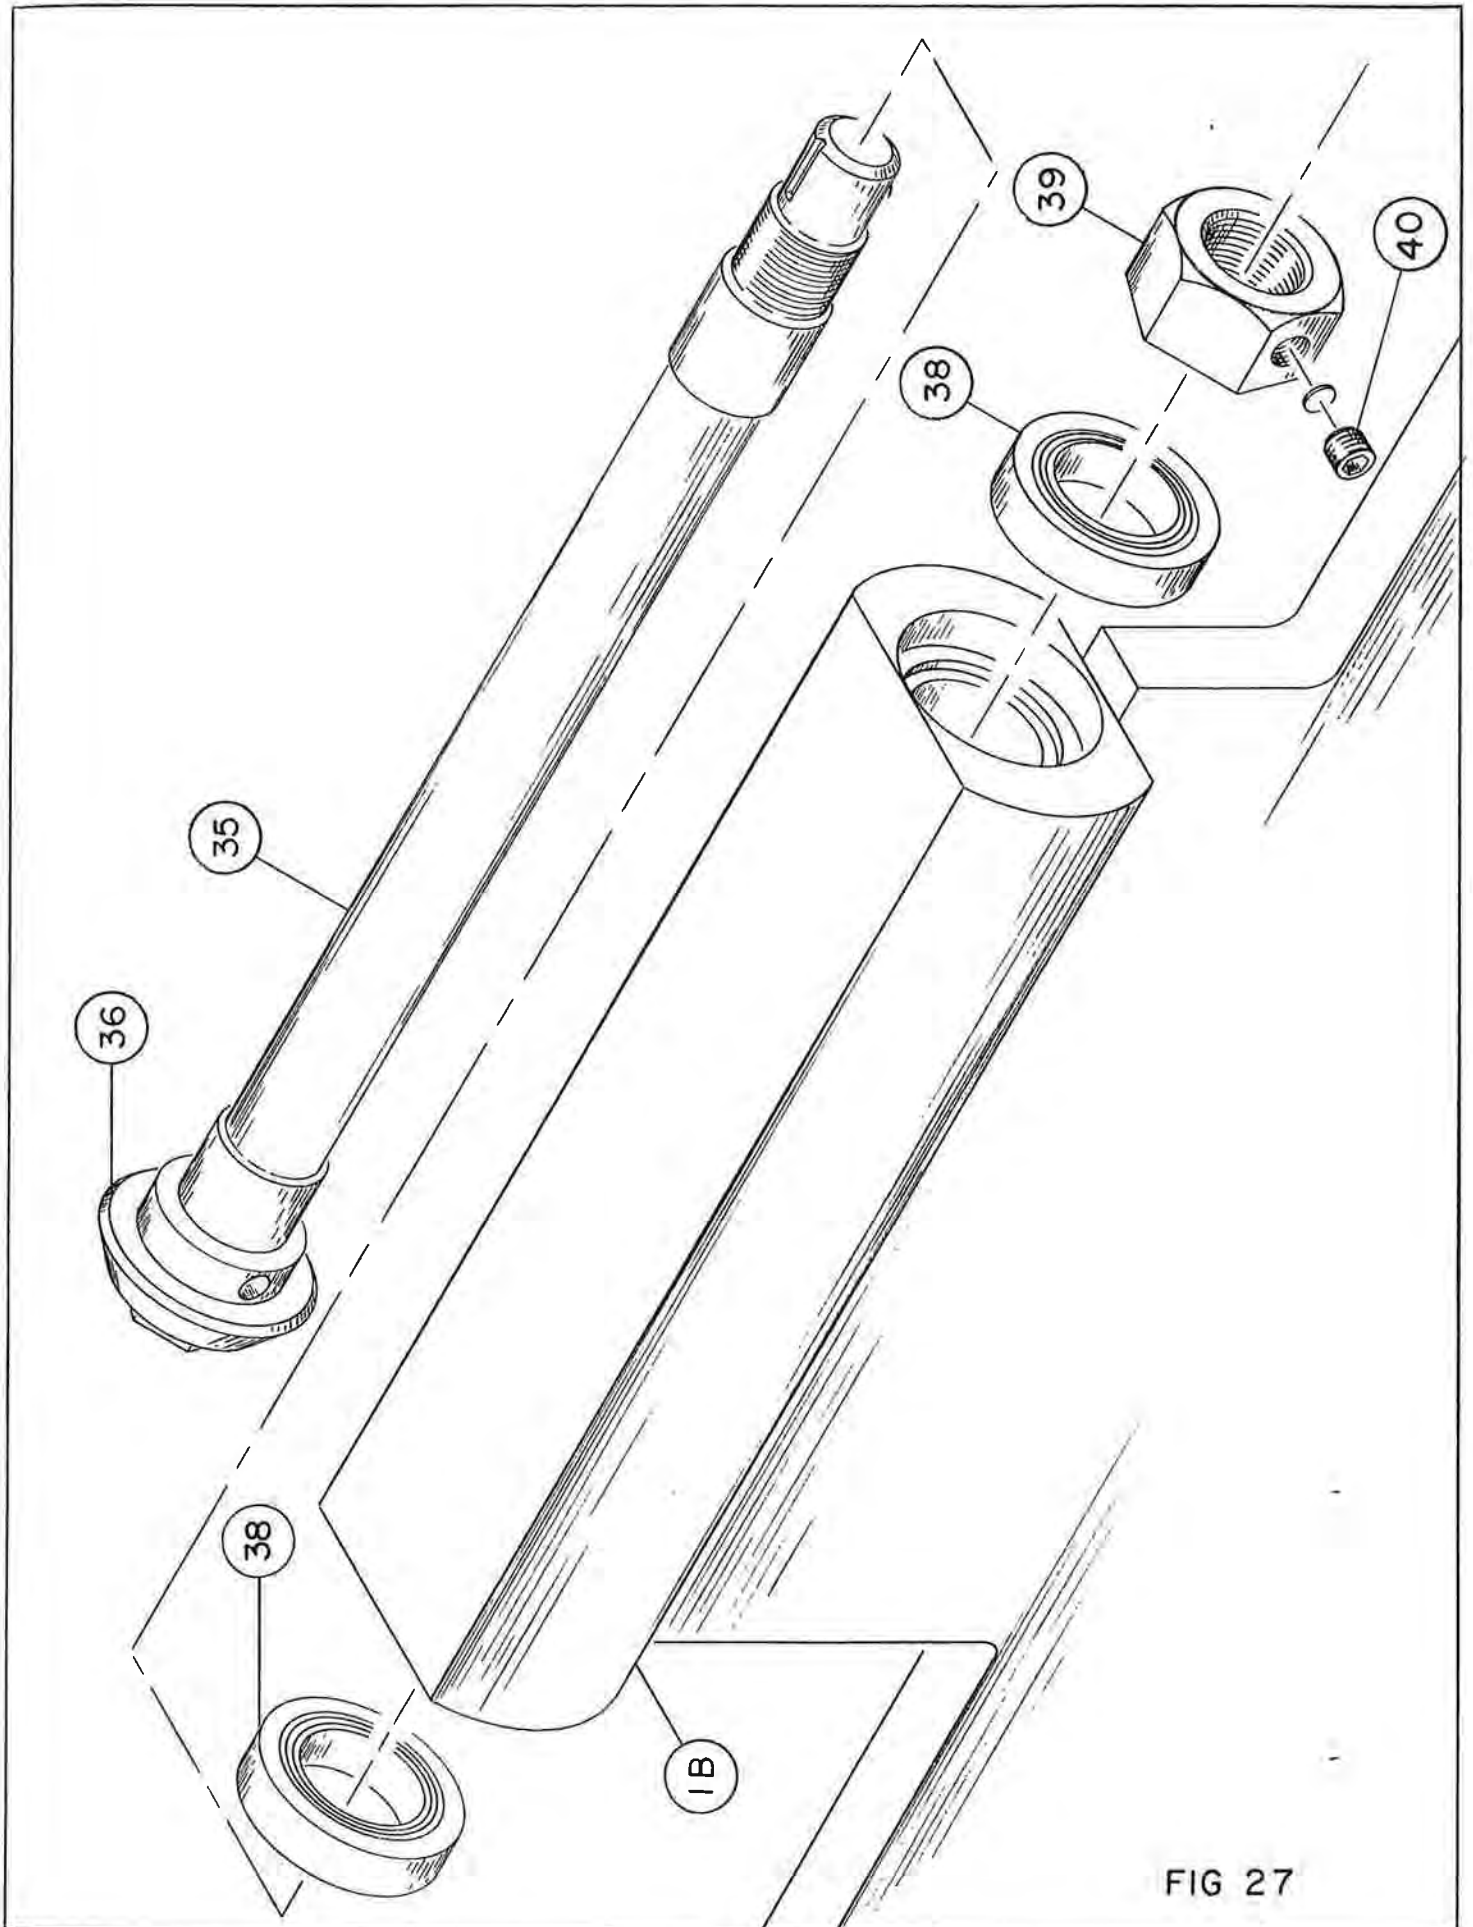

FIG 27
(1) See Fig. 27 Page 33
(1) See Fig. 27 Page 39